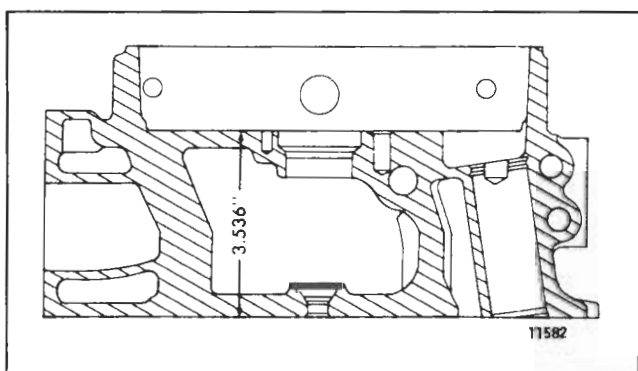

Fig. 8 - Minimum Distance Between Top and Bottom Faces of Cylinder Head
- c. If the cylinder head is to be refaced, remove the injector tubes prior to machining. Do not remove more than .020 " (total) of metal from the fire deck of any cylinder head. The distance from the top deck to the bottom (fire deck) of the cylinder head must not be less than 3.536 " (Fig. 8). Stamp the amount of stock removed on the face of the fire deck near the outer edge of the head, in an area not used as a sealing surface.